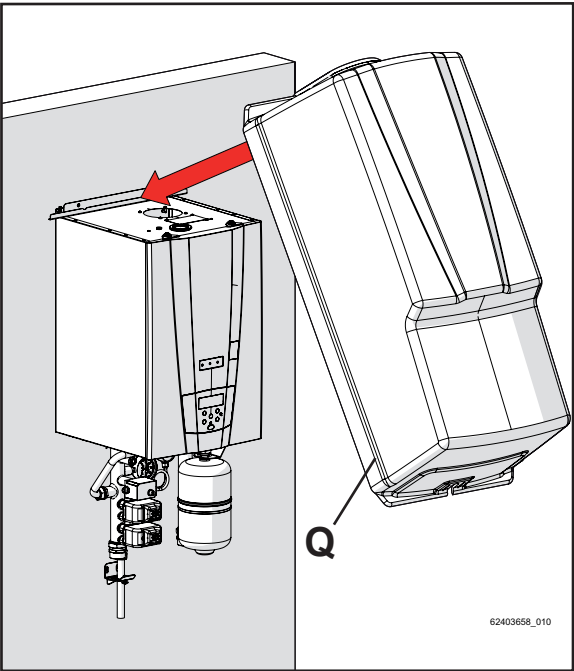
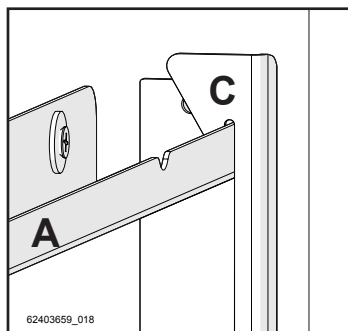
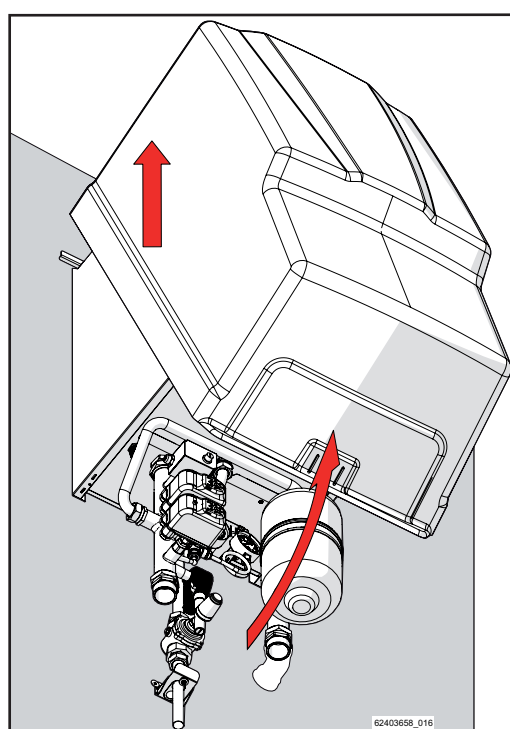

Figure 5-32
Figure 5-35
Figure 5-42
- 6 - Apply the cover as shown in figures 5-32, 5-33 and 5-34 in sequence, making sure that the two hooks "C", in the cover frame, are anchored to the upper fixing bracket "A" as shown in figure 5-35.
- Turn and lift the cover as shown in figure 5-42, remembering to unhook the frame hooks "C" from the upper support bracket "A" as illustrated in figure 5-35.